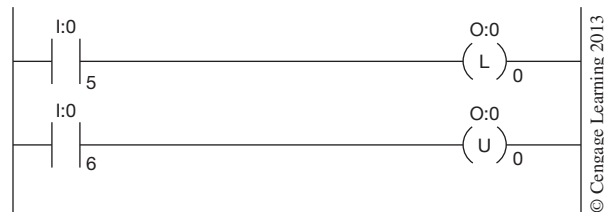

Figure 10–5 Programmed Latch and Unlatch Rungs
The OTL instruction is a retentive output instruction that can be programmed to turn *ON* an output device. This instruction cannot turn an output device *OFF*. Once an output device has been turned *ON* by an OTL instruction, an OTU (output unlatch) instruction must be used to turn the device *OFF*. As these two instructions must be used in pairs, it follows that they will use the same address. Note in Figure 10–5 that both the latch (L) and unlatch (U) coils have the same address (O:0/0).